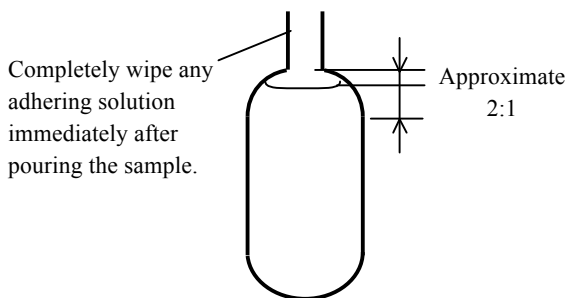

Fig. 8-5. Appropriate sample
- 1) Pour a sample up to the line shown in Figure 8-5. If a larger amount is poured, the tube will tend to be sealed incompletely, and if smaller, the centrifuge tube will be deformed by the pressure due to the centrifugal force, also causing imbalance.